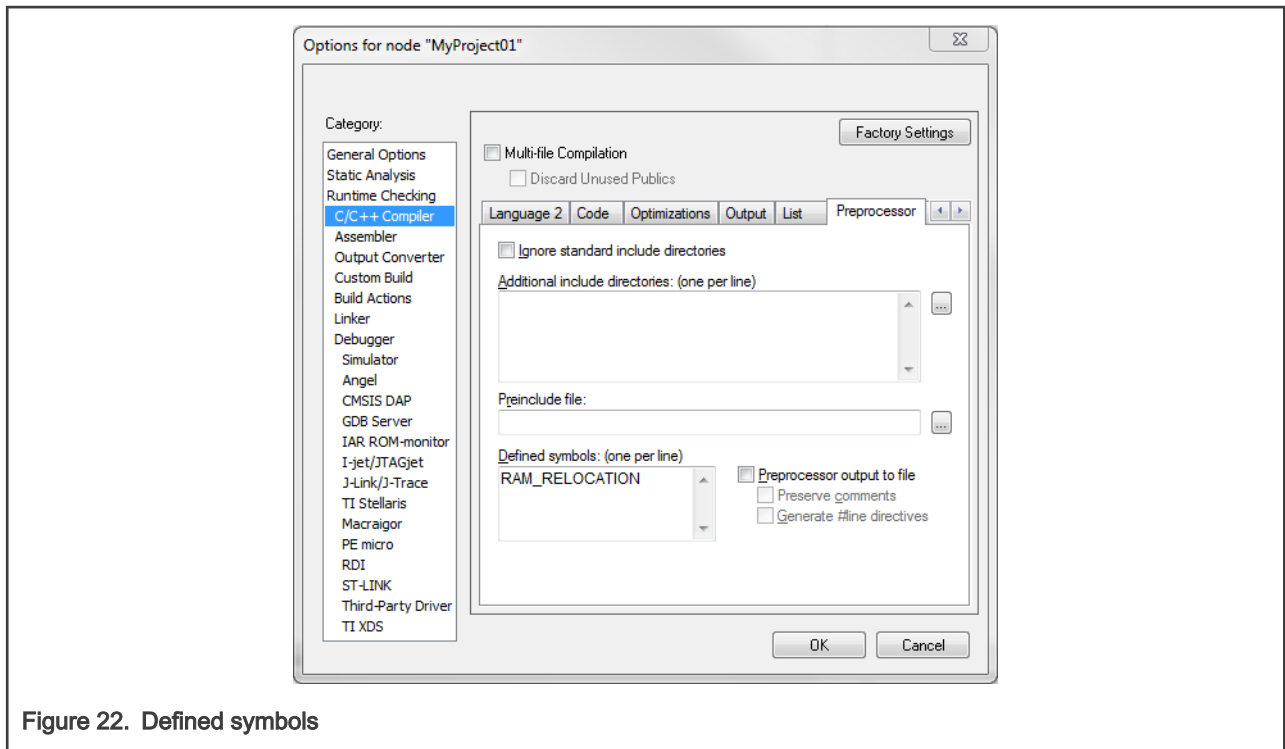

Figure 22. Defined symbols
4. In the text box (in Defined symbols: (one per line)), type the following (See Figure 22):